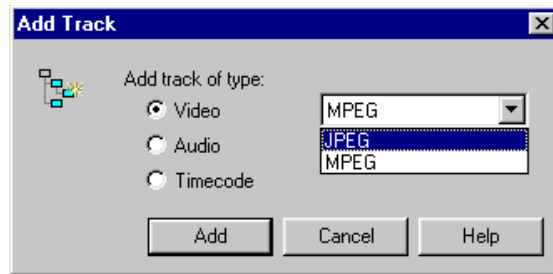

Figure 150. Add Track dialog box for video
3. To add a video track, click the **Add Track** button and the Add Track dialog box appears (see Figure 150). Click **Video**, then select either **JPEG** or **MPEG**, depending on the type of track you want. Click **Add** when done. The new video track icon will appear in the configuration tree.